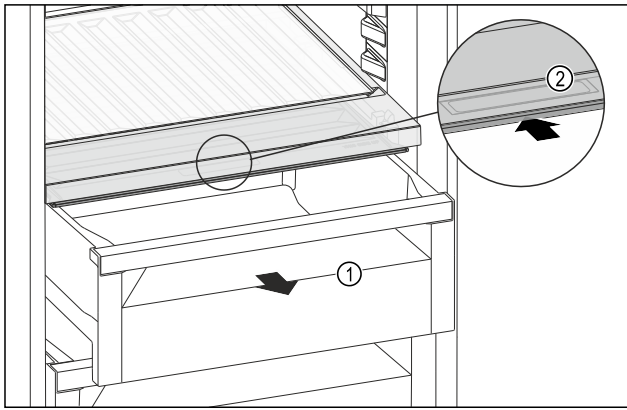

Fig. 263
- Pull out the drawer Fig. 263 (1).
- Grasp the recessed grip Fig. 263 (2) on the compartment lid and push the compartment lid backwards at the same time.